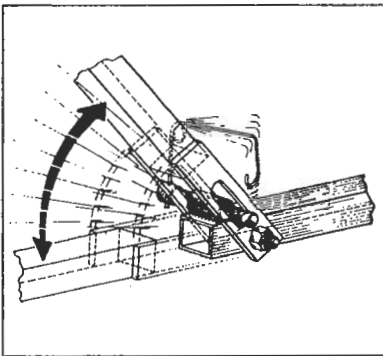

FIG. 10
- A) Grasp the handle of the wing and raise until the elongated slot in the clevis and the hole in the round piece of tube on top of the main frame align. **FIG. 10**